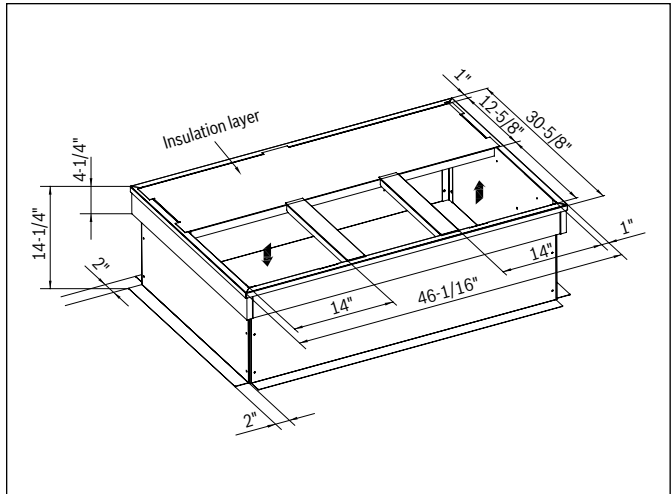

Figure 19 Roof Curb Dimensions
1. Remove the sheet metal screws securing the supply air cover and the sheet metal screws securing the return air cover from the base of the unit. Remove the covers from the base. See Figure 19.
2. Place the covers over the horizontal supply and return openings (painted side out). Align the screw holes, and secure using the same screws removed in step 1. See Figure 19.